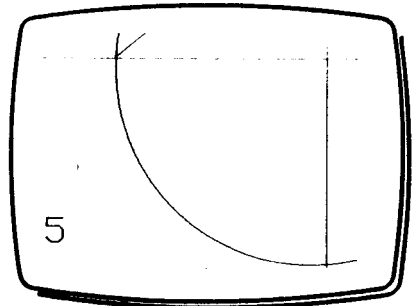

Fig 6
- 3 **Press and release T, and the framed area will appear full-screen, (5) in Fig 6.**